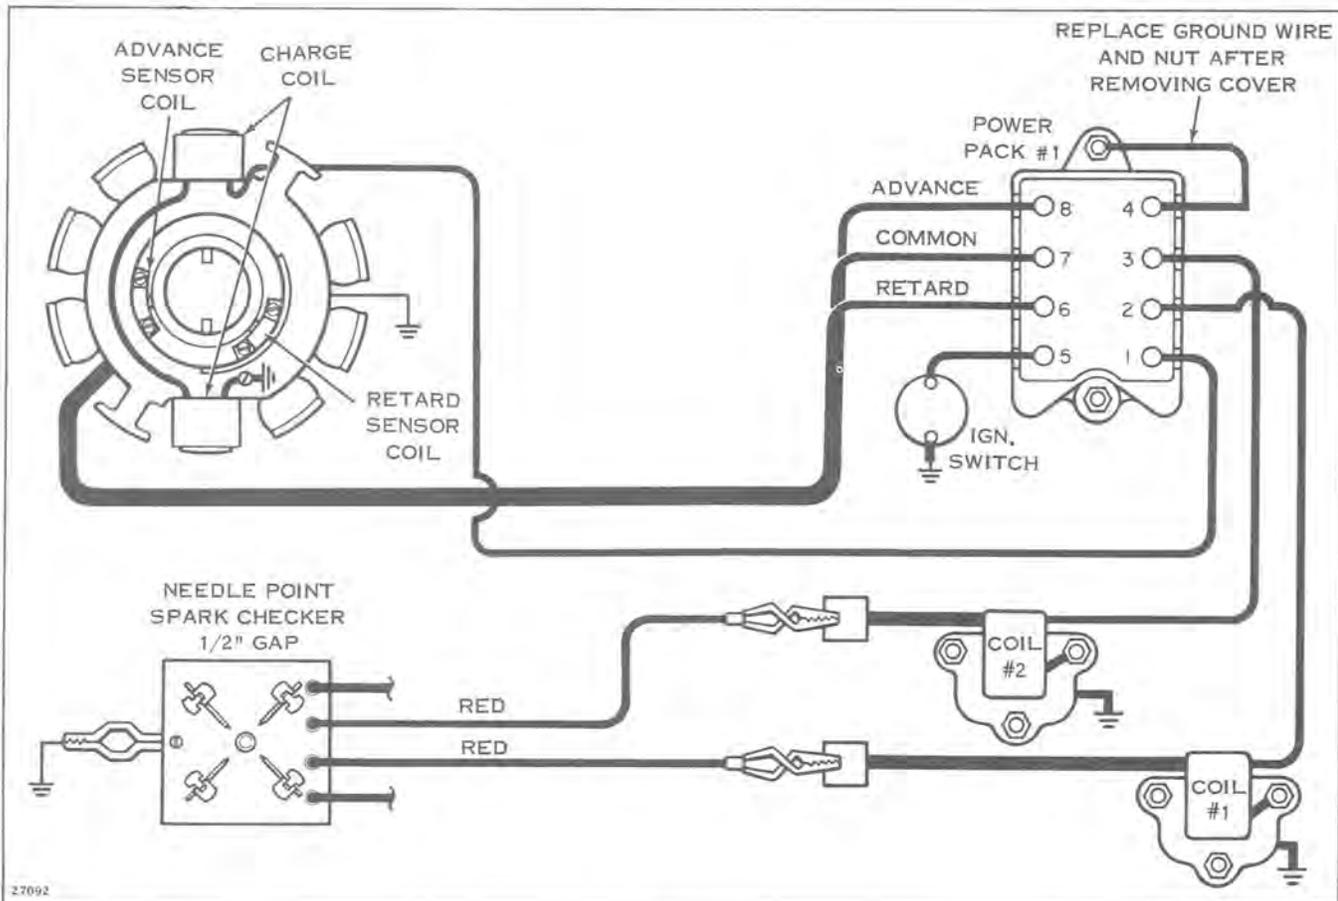

Figure 7-11
- B. Connect spark gap checker with 1/2" gap. See Figure 7-11.
- A. Disconnect orange/black lead from Power Pack terminal #5. See Figure 7-11.